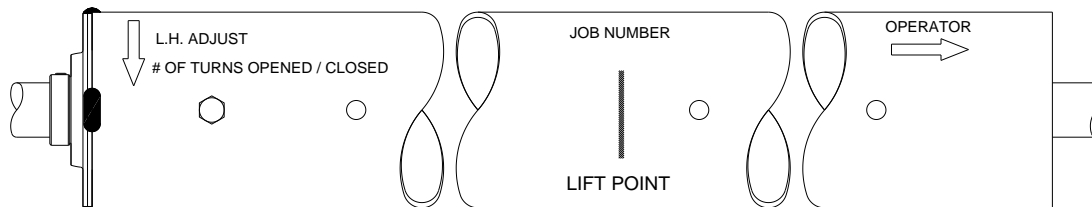

Figure 6.1 – Barrel Markings (Left Hand Adjust Shown)
2. Unpack the barrel assembly. Note the markings on the barrel, see **Figure 6.1** below.
4. Check to make sure the required number of turns is noted on the barrel, as shown in **Figure 6.1**. Consult the distributor or the manufacturer if you cannot locate this information. Check that these numbers match the information provided on the job information. Take note of these numbers, as access to this information may be obstructed once the curtain is installed.
- **Crane Hoisting:** Place a sling or lifting agent under the barrel assembly at the “lift point” provided on the barrel, see **Figure 6.1**.
- **Forklift Hoisting:** Space the forks evenly under the “lift point” provided on the barrel, see **Figure 6.1**. Ensure that the barrel assembly is positioned close enough to the tips of the forks that the fastening holes in the bracket can be aligned with those of the guides without the forks contacting the wall. Secure the barrel assembly to avoid the slipping off the tip of the forks.